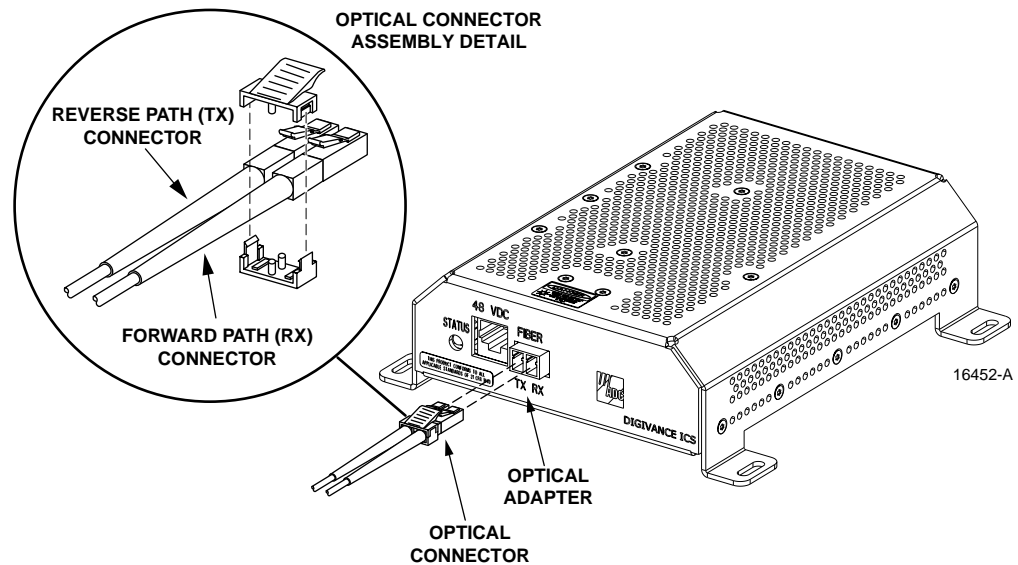

Figure 15. Optical Port Fiber Optic Cable Connection
3. Use the plastic joiner provided with the LC optical connectors to join the DRU forward and reverse path connectors together as shown in Figure 15. Make sure the **forward path** and the **reverse path** connectors are oriented as shown.
- ▶ **Note:** When viewing the DRU optical transceiver from the front, the forward path port is on the right (RX) and the reverse path port is on the left (TX).
5. Clean each connector (follow connector supplier's recommendations) and then insert the optical link connector pair into optical port as shown in Figure 15.